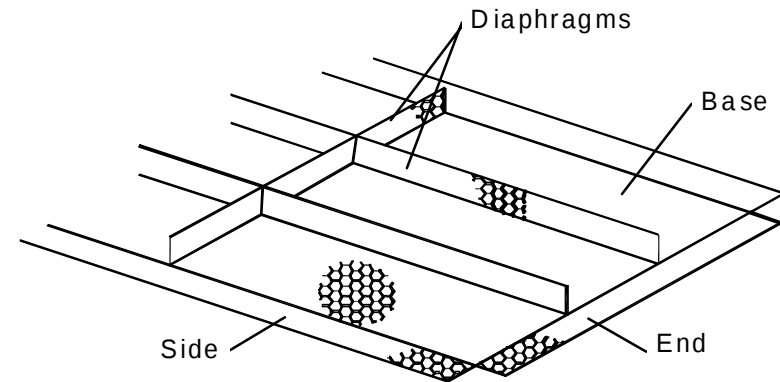

Fig. 2
2. Pull up the sides, diaphragms, and ends to form open cells, folding the mesh by hand to form the beginning and ends. Be sure the top of the ends, sides, and diaphragms are the same height. See Figure 2.